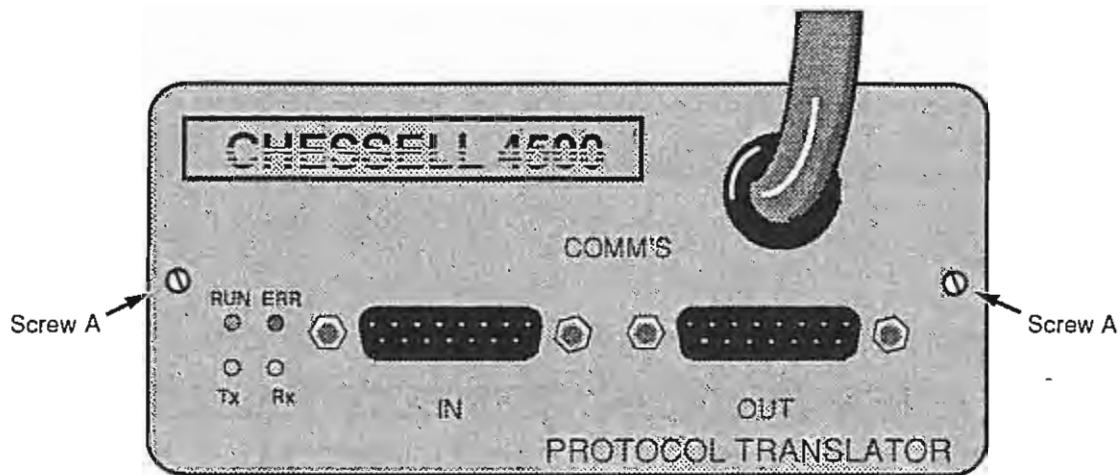

Figure 6.3.2a Protocol translator front panel
1. Remove the circuit board from the case, by removing the two securing screws ('A' in fig 6.3.2a) and pulling the front panel gently forwards.
The operation of the translator is transparent to the user. The interpretation of the information given by the four LEDs on the front panel (fig 6.3.2a above) may however be of use: